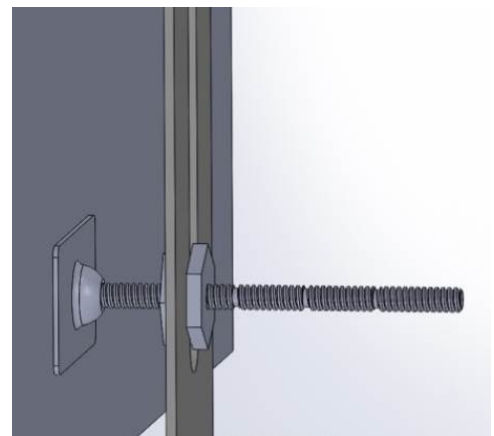

FIGURE 13
7. In cases where the VESA mounting points are narrowly spaced or non VESA compliant use of the Stabilizers is strongly suggested. **See Figure 13.**